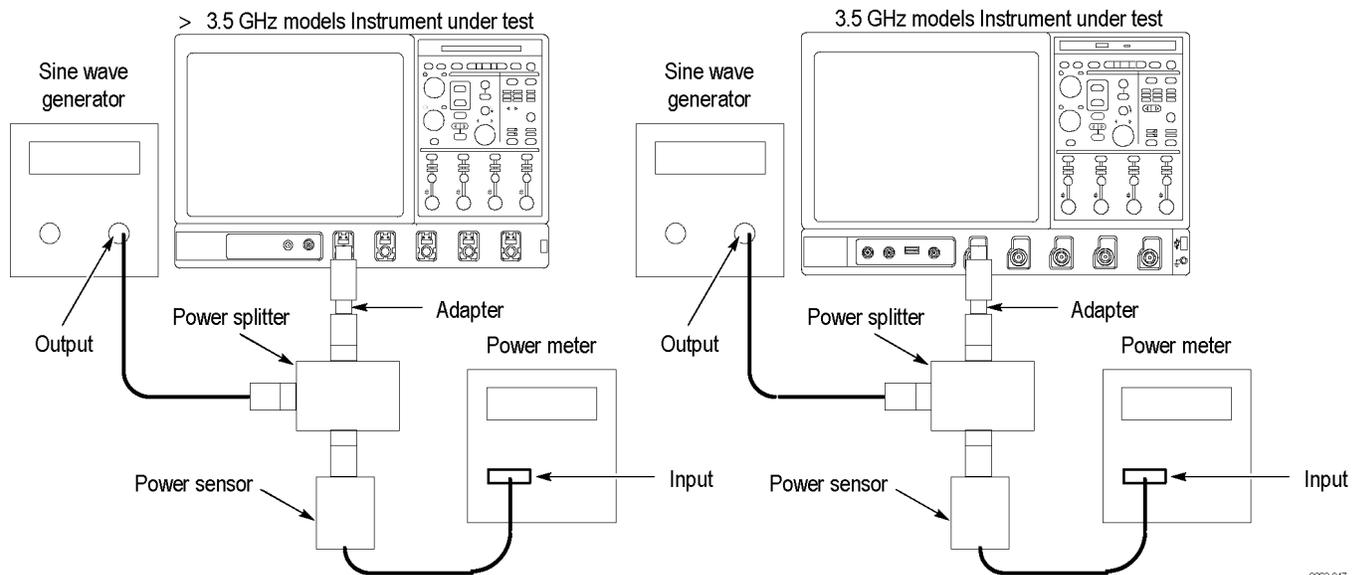

Figure 22: Channel bandwidth test hookup, DPO7354C model
c. Hook up the test-signal source: Connect the sine wave output of the sine wave generator to **Ch 1** through a power splitter. Connect the power sensor of the power meter to the power splitter. Set the output of the generator to a reference frequency of 50 MHz. (See Figure 22 on page 292.)